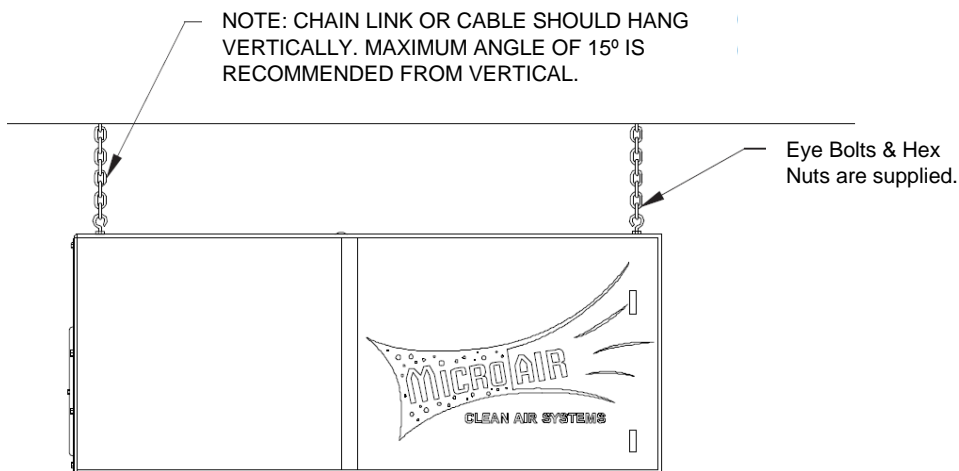

FIG. 1
3. Once eye bolts are secured, the MX 3510 is ready to be hung in an appropriate location. (See FIG. 1)
3. Loosen pulley adjustment set screw on motor pulley and screw adjustable sheave out away from fixed sheave. Tighten set screw onto flat of fixed screw (FIG. 1).